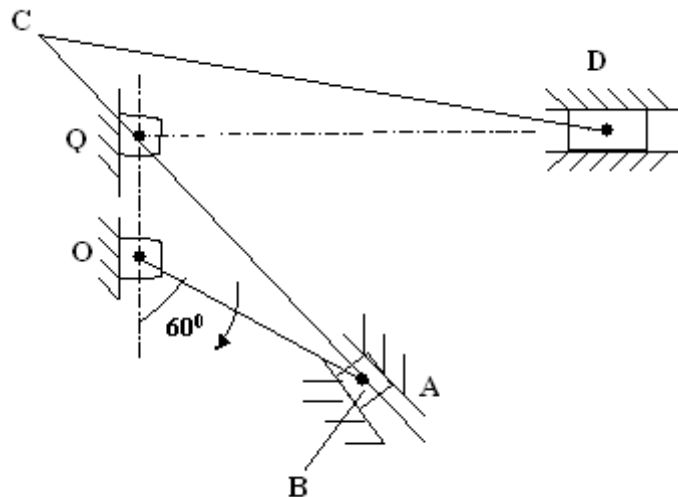

Figure 1:
3. Figure 1 shows a worth whit quick return motion mechanism. The various dimensions in the mechanism are as follows: